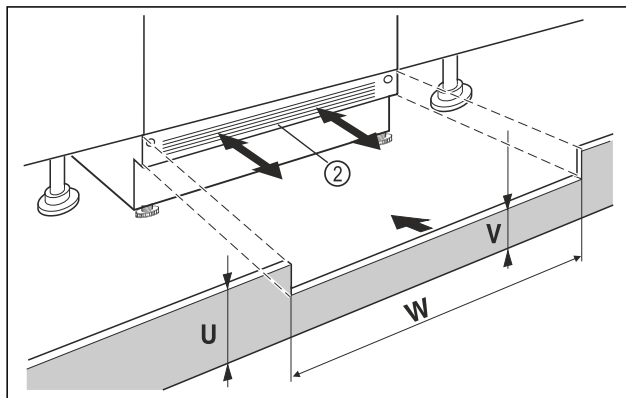

Fig. 71 Example illustration
- ▶ Put on the appliance base cover Fig. 71 (2) but do not fix it yet.
- ▶ If the base cover Fig. 71 (2) is visible, pull it so far forward that the front edge of the ventilation grille and the unit base cover form one level.
- ▶ If the base cover is concealed Fig. 71 (2), push it all the way back.
- ▶ Ensure that the ventilation slots are completely free: If necessary, cut the height of the unit base cover Fig. 71 (U) to size!
- ▶ Adjust the bar height Fig. 71 (V) under the appliance base cover Fig. 71 (2) along the recess width Fig. 71 (W).